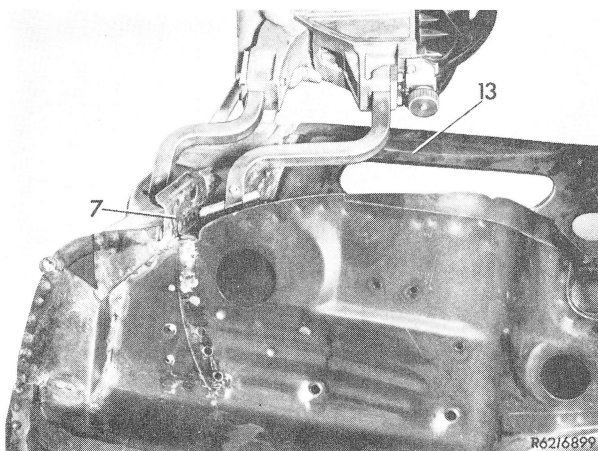

Figure 7
**26** Spotweld center piece under windshield inside (13) to connection sheet (7) (Fig. 7).